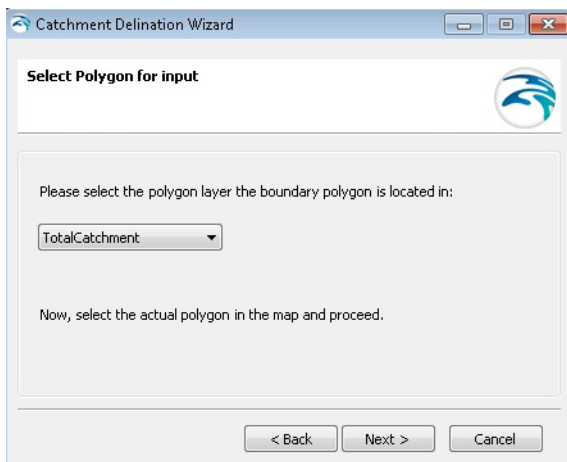

Figure 13.15 Selecting a polygon as a boundary for the delineation
- Select an existing polygon from any polygon layer represented in the Table of Contents. If this method is selected the next step in the wizard will be to select the layer and (if this is not already done). Select one polygon in the layer with the normal selection tool in MIKE URBAN. See Figure 13.15.